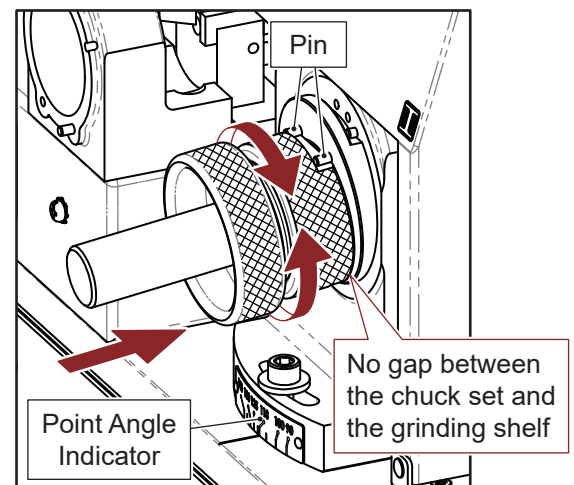

Fig. 10-1
1. Cutting Lip Grinding (Fig. 10-1)
- ① Insert the chuck set into the cutting lip grinding shelf (I), align the slot of clamping-nut to the two pins on the grinding shelf, push the chuck set gently and turn it clockwise and counterclockwise until the grinding noise stops.
- ② Take the chuck set out, turn it to the other side and grind the drill in the same way.